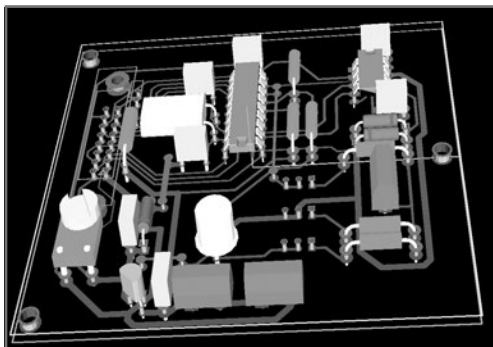
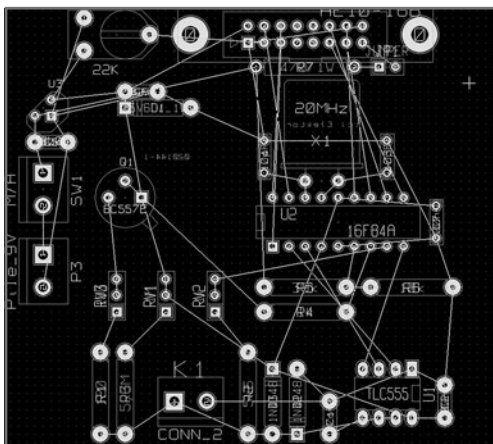

Figure 6 3D display of the capacitance meter as described in *Elektor*.
Figure 7 The rats' nest in white lines.
You gain access to PCBNew from the KiCad project manager (recommended), or directly using the icon (G) (Figure 5). This printed circuit design software is made in the image of EESchema: simple, easy to get used to and easy to use; that does not mean its performance is lagging, here are some examples: 16 copper layers, 12 technical layers (lithography, resist coating, dimensioning, etc.) components, through-hole or SMC, work done to one/ten-thousandth of an inch, dynamic rats-nest, Design Rules Check, ground plane, and it has a very capable high-performance internal router that can operate in a single-sided layer! What more can an amateur ask for? And a 3D view of the board surface just for the visual pleasure. It is shown in Figure 6!
Manual routing is accomplished, of course, with the mouse, and you will quickly notice that PCBNew knows how to place your traces in a well-disciplined fashion, without laboriously defining the smallest change in orientation. Displaying the rats' nest (K), (see **Figure 7**) enables quick and reliable work. If straps are required, they will be shown on the traces on the component layer (in red on **Figure 6**). Once the routing has been finished, you can add centring targets, dimensioning, and any other graphics such as a logo, copy-right symbol, etc.